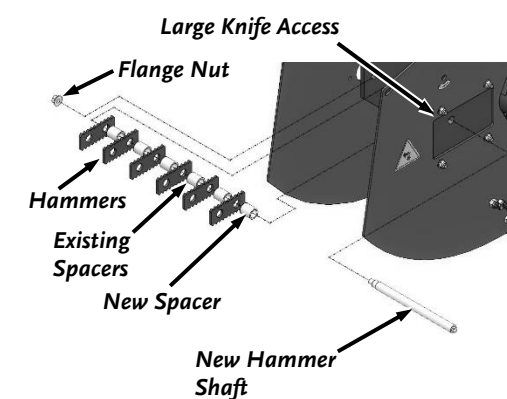

Figure 48
15. Slowly remove the Hammer Shaft through the Knife Access Window, while at the same time removing the Hammers and Spacers from the Shaft, setting them aside in the same order and orientation as you remove them (**Figure 48**).
Note: Be sure to reinstall the remaining Hammers and Spacers in the same order that they were removed. Refer to (**Figure 48**) for the correct order.